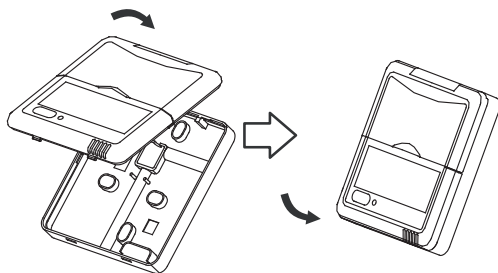

Fig 3-10
- After adjusting the upper case and then closing the upper case; avoid pinching the wiring. (Fig 3-10)